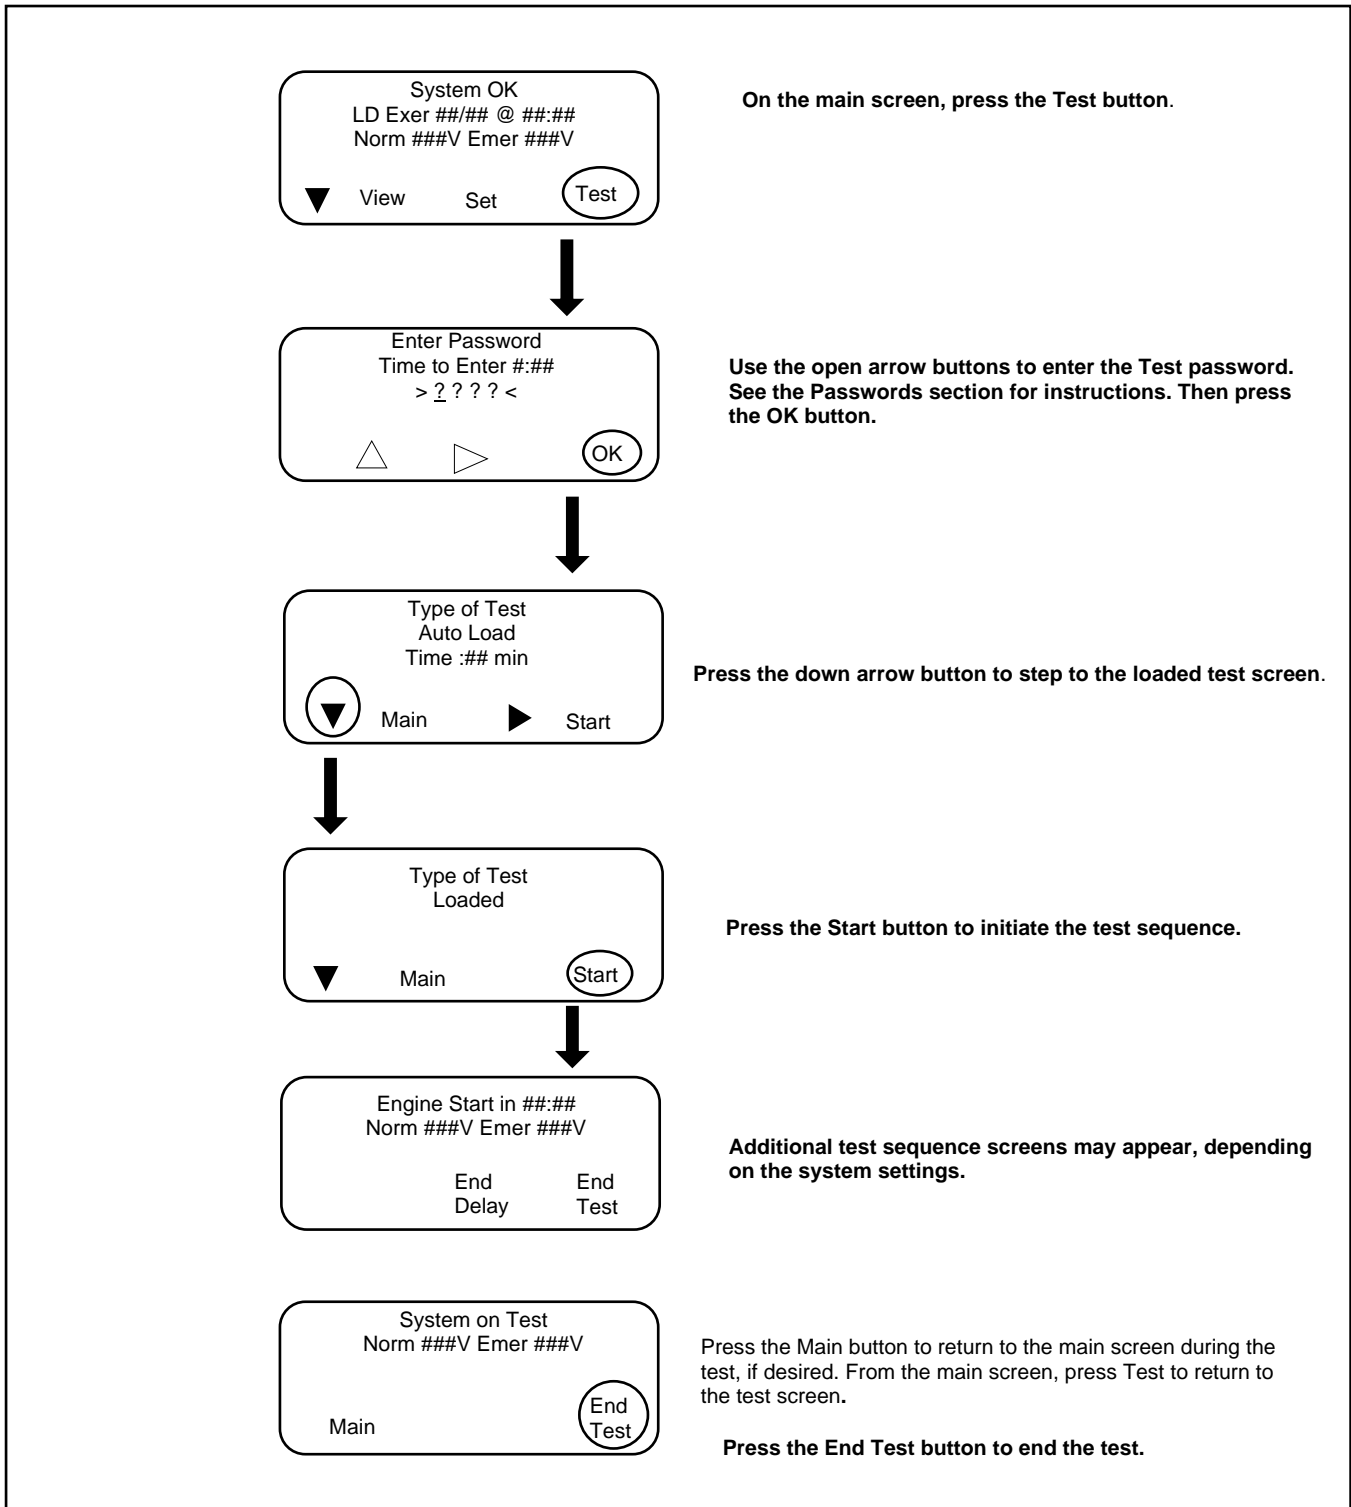

Figure 17 Starting and Stopping the Automatic Operation Test
3. Refer to Figure 17. From the main screen, press the Test button. Enter the test password when prompted and press OK.